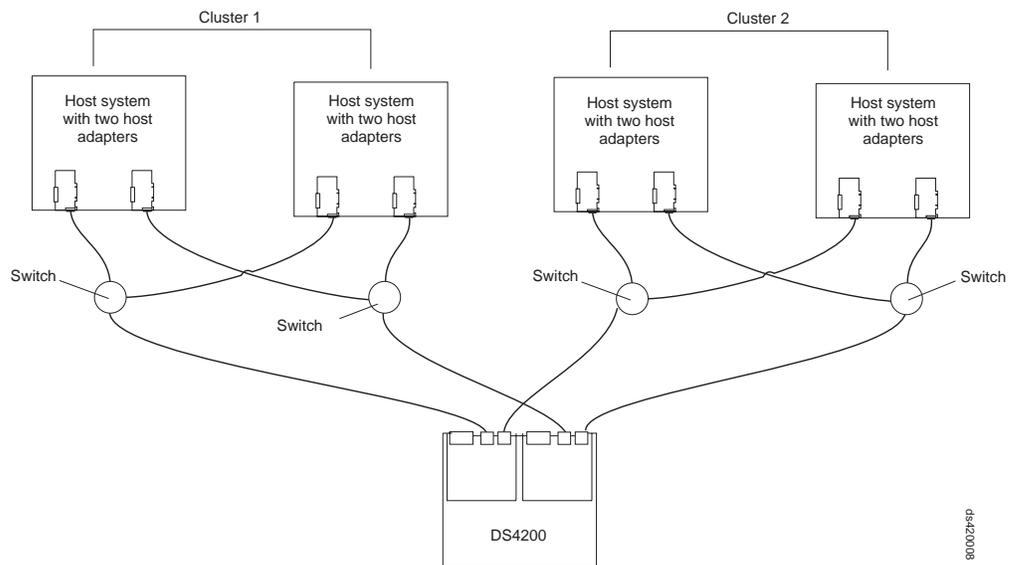

Figure 60. Example of a two-cluster configuration
- Two clusters, as shown in Figure 60 on page 77
Figure 60 shows an example of a two-cluster configuration.